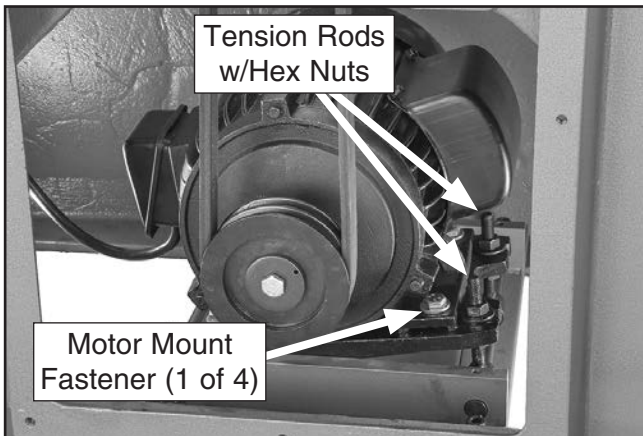

Figure 43. Location of motor tension rods, hex nuts, and motor mount fasteners.
- Loosen hex nuts on motor tension rods (see **Figure 43**).
- Loosen motor mount fasteners (see **Figure 43**).
- Press down on motor until there is proper tension on V-belts. While holding motor down, tighten hex nuts on tension rods (see **Figure 43**).